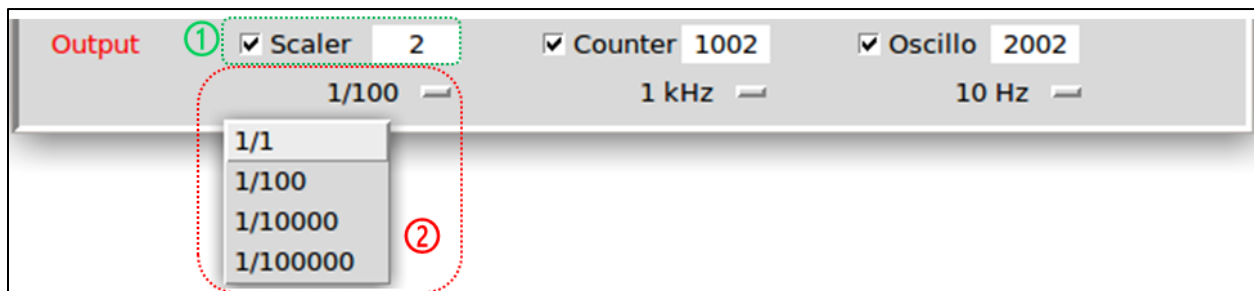

Figure 27: decimation of "SCALER" data
The experimenter can store or display all "SCALER" data processed by the SCALER module by enabling data output (cf. Figure 27 ①) and selecting 1/1 (cf. Figure 27 ②). But, when the event rate is too high and saturates the FASTER acquisition, the user can choose to store a percentage of this rate: one event data every 100 event data is sent, or every  $10^4$  event data, or one event data every  $10^5$  event data. With this decimation parameter, the acquisition efficiency can be controlled.
- **myChannel\_CALC**: When the SCALER data decimation parameter is 1/1 (cf. Figure 27), it represents the number of events discriminated by the Trigger module.
If SCALER data decimation is 1/1 (Figure 27), the dead time of the “SCALER” data is equal to